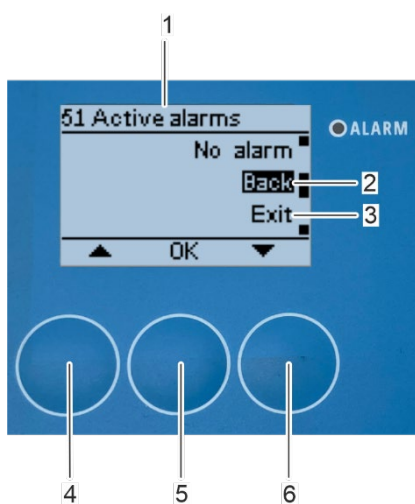
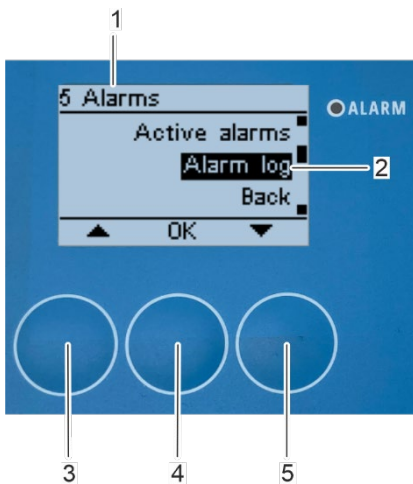
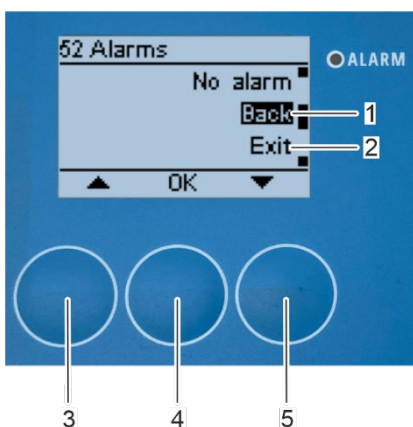

Fig. 186: Leave submenu "51 Active alarms"
Fig. 187: Open submenu „Alarm log“
Fig. 189: Leave submenu "52 Alarms"
3. Select *[Back]* (Fig. 186/2) to return to "5 Alarms" submenu (Fig. 187/1) or *[Exit]* (Fig. 186/3) to leave the menu and return to the home screen with the arrow keys *[up]* (Fig. 186/4) and *[down]* (Fig. 186/6).
4. Confirm the selection with *[OK]* (Fig. 186/5).
1. Select the "Alarm log" submenu (Fig. 187/2) with the arrow keys [up] (Fig. 187/3) and [down] (Fig. 187/5).
2. Confirm the selection with [OK] (Fig. 187/4).
3. Select [Back] (Fig. 189/1) to return to the "5 Alarms" submenu (Fig. 187/1) or [Exit] (Fig. 189/2) to leave the menu and return to the home screen with the arrow keys [up] (Fig. 189/3) and [down] (Fig. 189/5).
4. Confirm the selection with [OK] (Fig. 189/4).